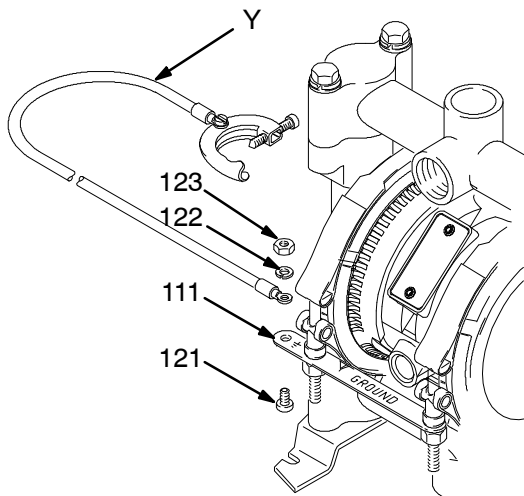

Fig. 1
- *Pump:* attach a ground wire (Y) to the grounding strip (111) with the screw (121), lockwasher (122) and nut (123), as shown in Fig. 1, and per code. Connect the clamp end of the ground wire to a true earth ground. Order Part No. 222011 Ground Wire and Clamp.